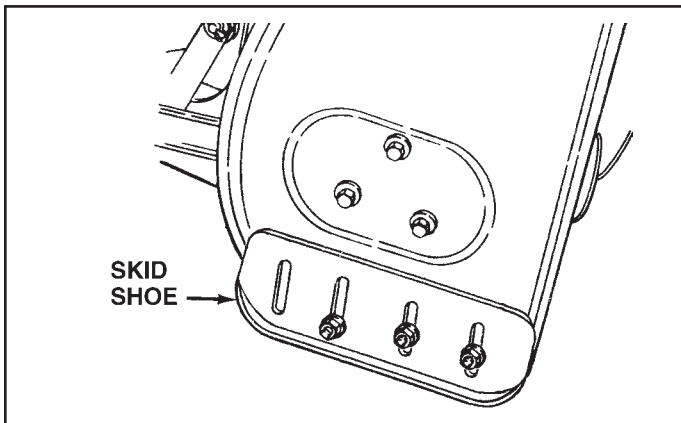

FIGURE 59
(Refer to figures 59 and 60 on page 28)**
- Raise the snow thrower off the ground and place a block under each end of the scraper plate. Loosen the six hex nuts securing the skid shoes to the housing. Adjust the skid shoes up or down and retighten the nuts securely. Adjust both skid shoes to the same height to keep the housing and the scraper plate level. See figure 59.